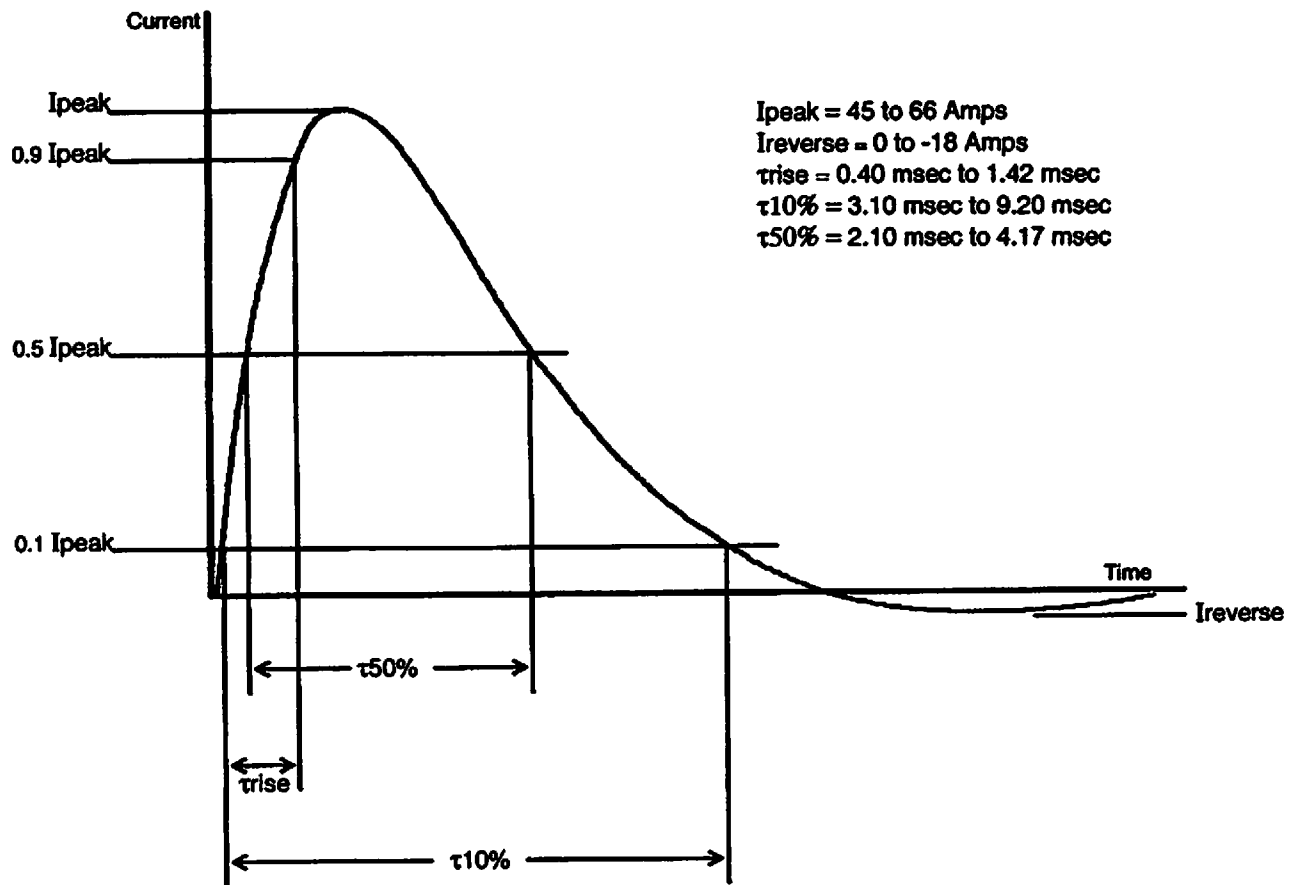

Figure 3-9 Energy output waveform
- 7 Confirm that the waveform meets the specifications shown in Figure 3-9.